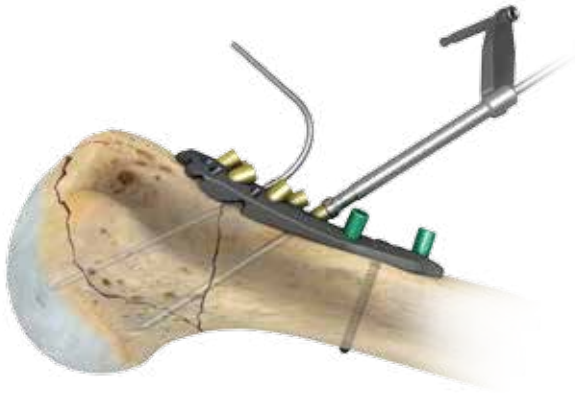

Figure 23
- Using the 2.7 mm Calibrated Drill Bit (214227070), drill through the Drill Guide and gold F.A.S.T. Guide Insert (Figure 23)